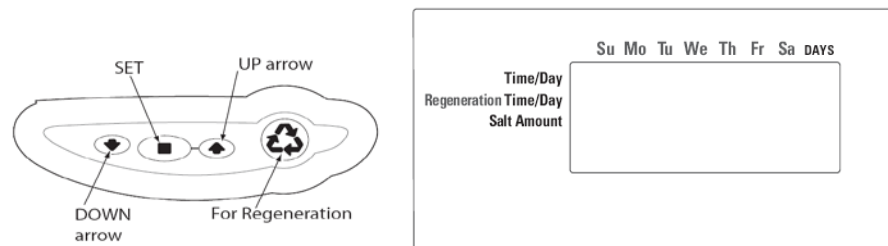

Figure 4
1. Push the FOR REGENERATION button (**Figure 4**) on the controller down for 5 seconds. This will initiate a manual regeneration. You will notice a flashing hour glass during regeneration. The controller will indicate that the motor is turning the camshaft to cycle C1 (BACKWASH). The controller will indicate the total regeneration time remaining. Filling tank in this position allows air to escape from drain. Open the bypass inlet valve  $\frac{1}{4}$  turn and allow water to flow into the mineral tank at a slow rate.